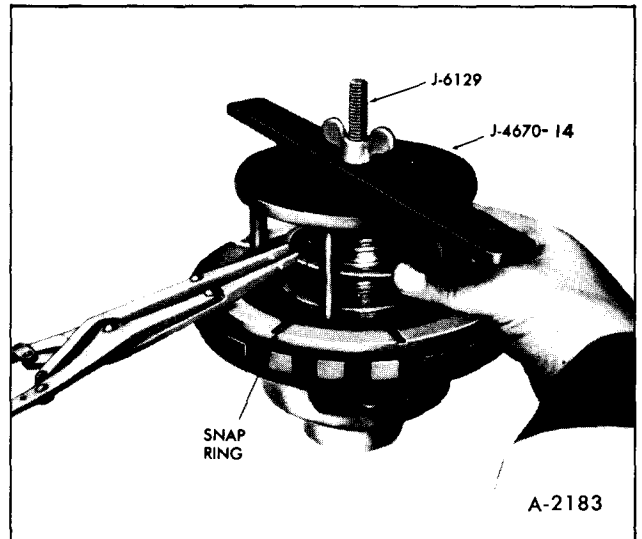

Figure 61—Removing Intermediate Clutch Retaining Snap Ring
3. Using Clutch Spring Compressor, J-4670, and Rear Clutch Spring Compressor, J-6129, Figure 61, compress spring retainer and remove snap ring with Snap Ring Pliers, J-8059 or J-5586.
6. Using Clutch Spring Compressor, J-4670, and Rear Clutch Spring Compressor, J-6129, Figure 61, compress spring retainer, being careful that retainer